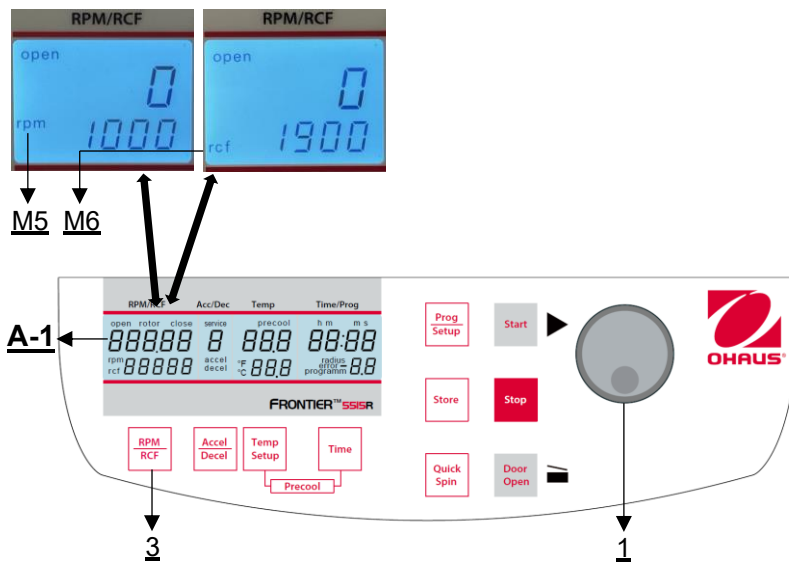

Figure 15
The pre-selection is activated through the key **"RPM | RCF"** (3) (refer to **Figure 15**). By pressing the key once the word **"rpm"** (M5) flashes. By pressing the key twice, the pre-selection of the centrifugal forces can be selected. Then the flashing word **"rcf"** (M6) appears. You can set the desired values with the adjusting knob (1). In the display (A-1) the regulated value is shown permanently, before, during and after the run.